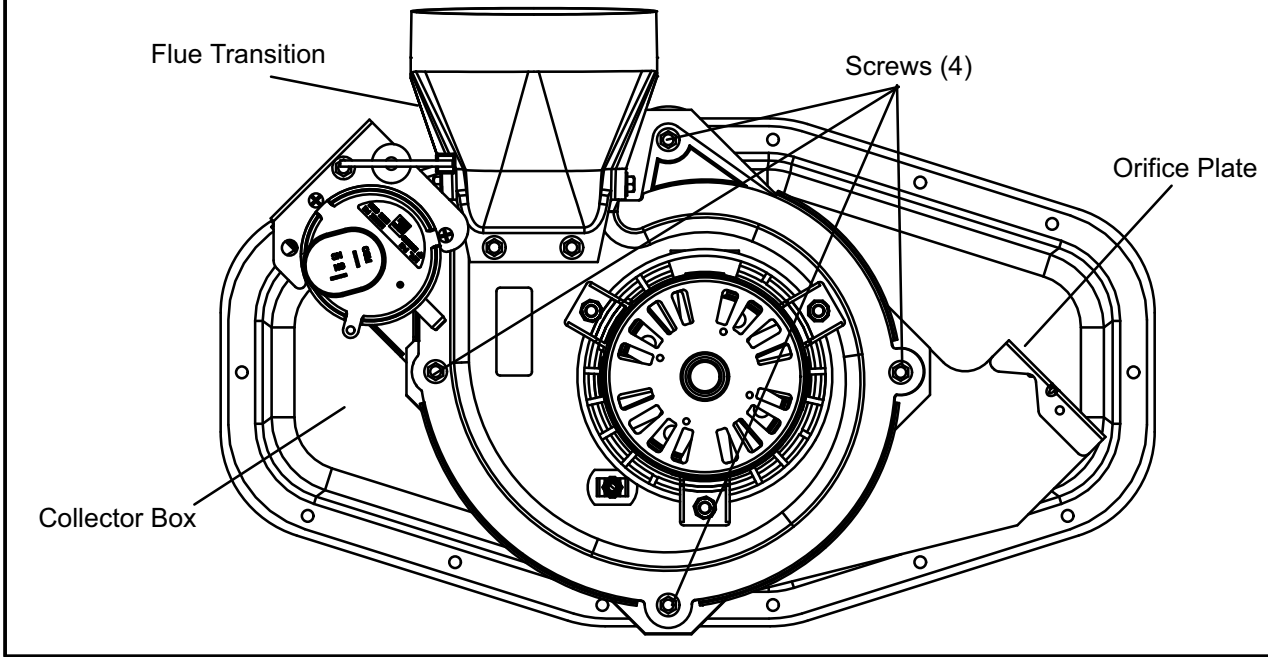

FIGURE 1
- 5 - Remove the four securing screws (figure 1) that secure the combustion air inducer to the flue collector box. Remove the inducer from the furnace.